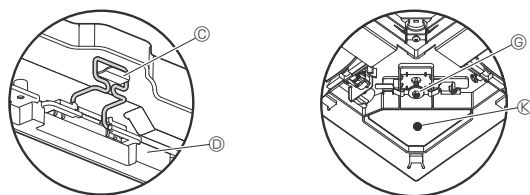

Fig. 6-7
- After tightening the screw, confirm that the two grille hooks (Fig. 6-7) are latched onto the hooks on the main unit.